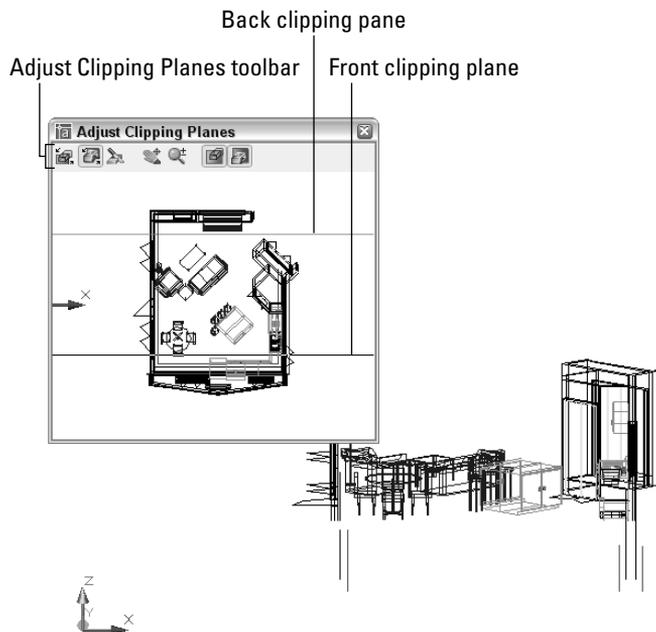
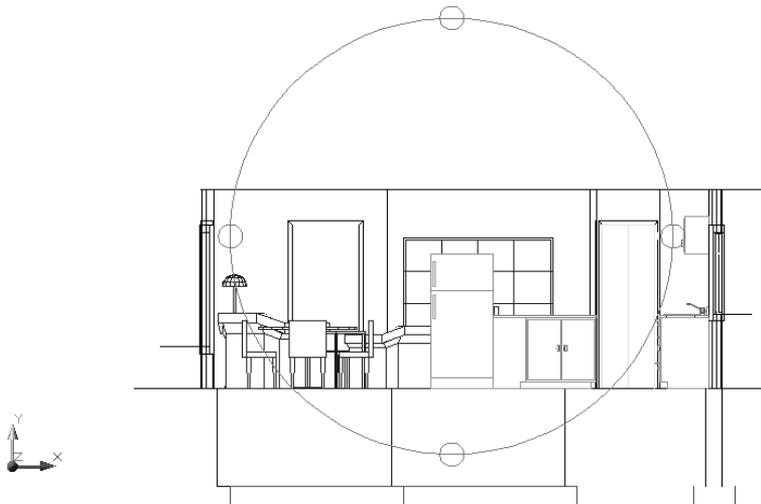

Figure 22-27: The Adjust Clipping Planes window, shown with the model on the drawing area.
Figure 22-28: A house after setting clipping planes and using the Hide Shading option.
1. From 3D orbit, right-click and choose More ⇨ Adjust Clipping Planes. AutoCAD displays the Adjust Clipping Planes window, shown in Figure 22-27.
Figure 22-28 shows how the house shown in Figure 22-27 looks after setting clipping planes and changing the rotation slightly. The front and back walls have been clipped off.